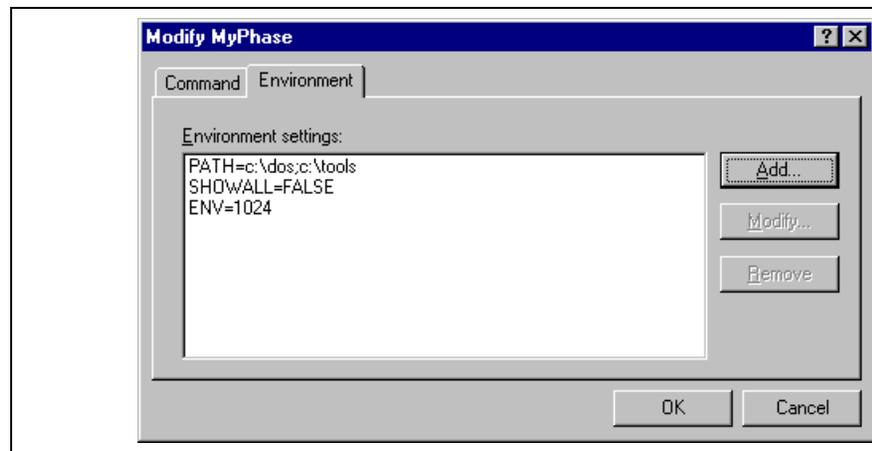

Figure 3.8: Modify Phase Dialog Environment Tab
5. Select the "Environment" tab (figure 3.8) to edit the environment settings for the phase.